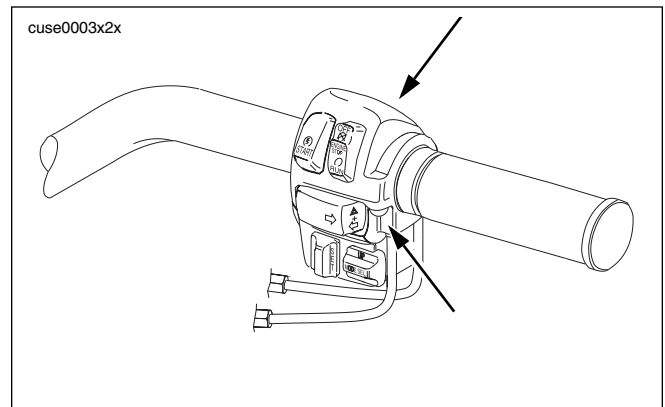

Figure 2-11. Right Handlebar Switch Housing Screws
7. See Figure 2-11. Remove upper and lower fasteners securing right switch control housing halves to handlebar.